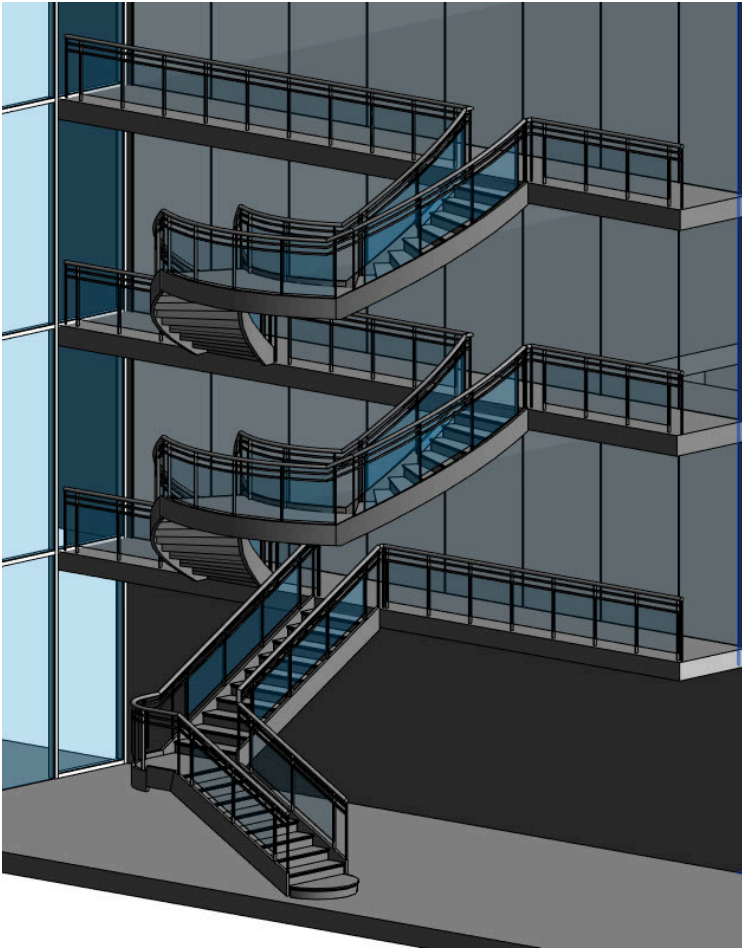

Figure 4.14 Mezzanine railing completed for Levels 2, 3, and 4
9. Continue to draw the railings for Levels 3 and 4 shown in Figure 4.14